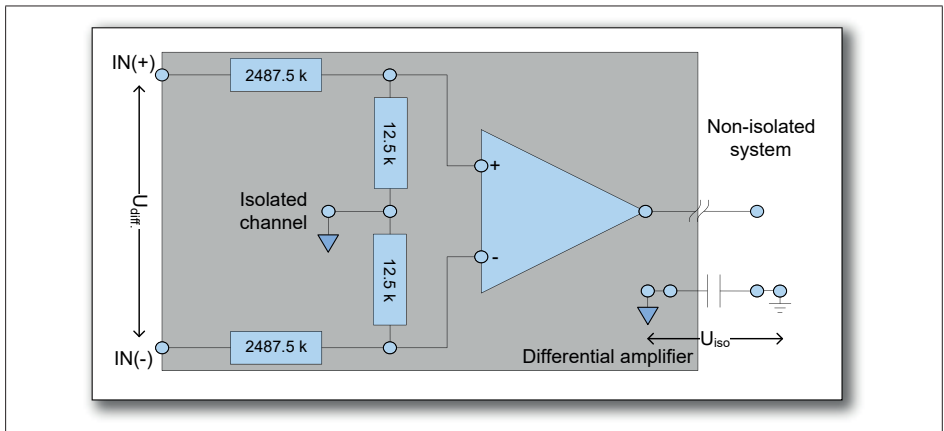

Fig. 12.18 Isolated balanced input channel
The high voltage signal input channels of the GN310B/GN311B are of the balanced type. This means that both inputs within one channel pair are exactly the same. The only difference is an opposite polarity or sign. A (simplified) schematic representation of the input channel can be found below (see Fig. 12.18)
- The isolated ground is not externally accessible, as shown in Fig. 12.18.